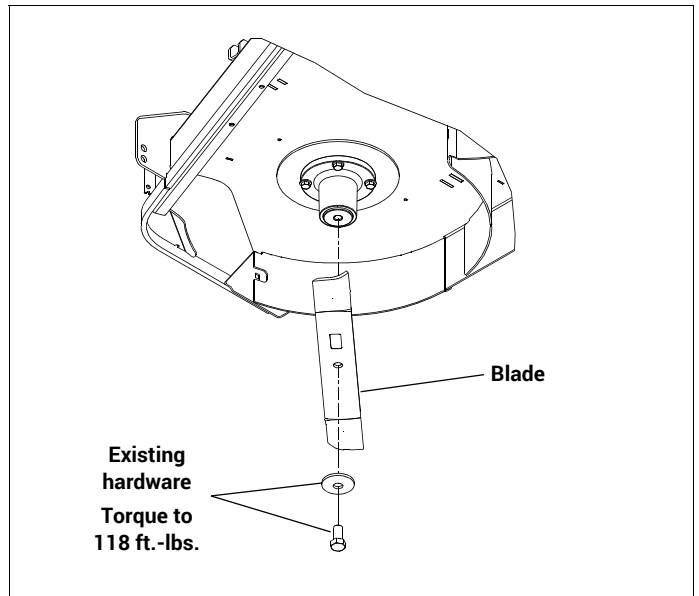

Figure 3-1
3. Remove the right side blade and replace it with the new blade. The catcher is provided with one blade for each deck size. Use the appropriate blade as indicated by the label on the blade and discard the other blades. Figure 3-1